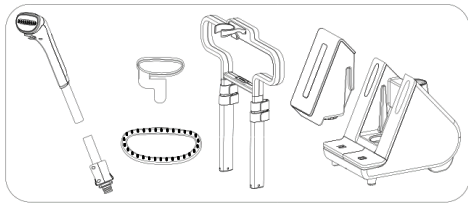

Fig. 1
- Appliance knock down assembly picture, Fig. 1